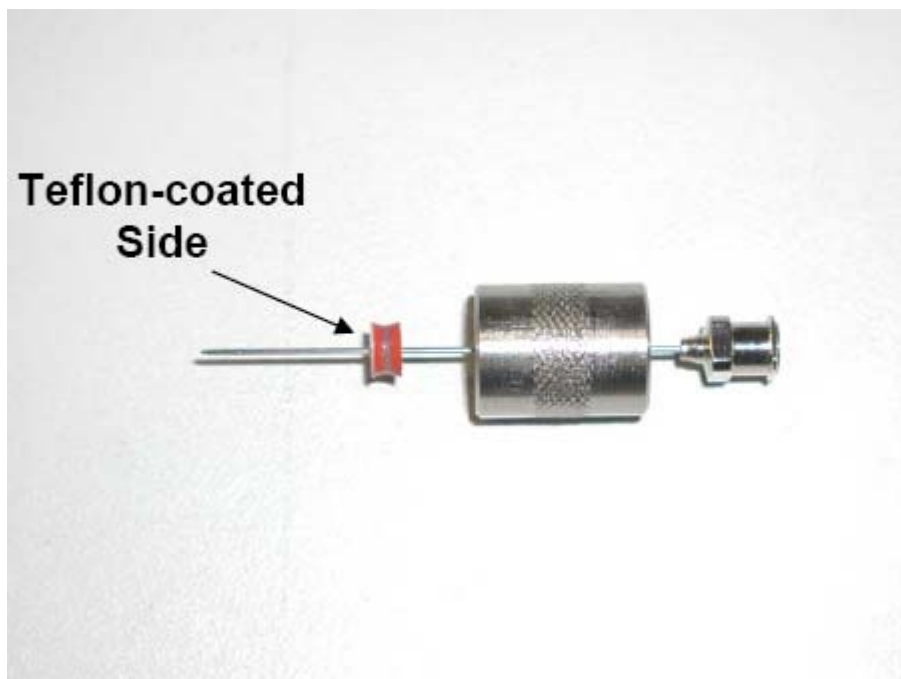

Figure 10. Arrangement for septum predrilling.
4. Slide the septum nut and new septum onto a blunt 22-gauge needle (e.g. Hamilton AS tip style or similar). The Teflon-coated side of the septum should be facing away from the bottom of the septum nut (see Figure 10).